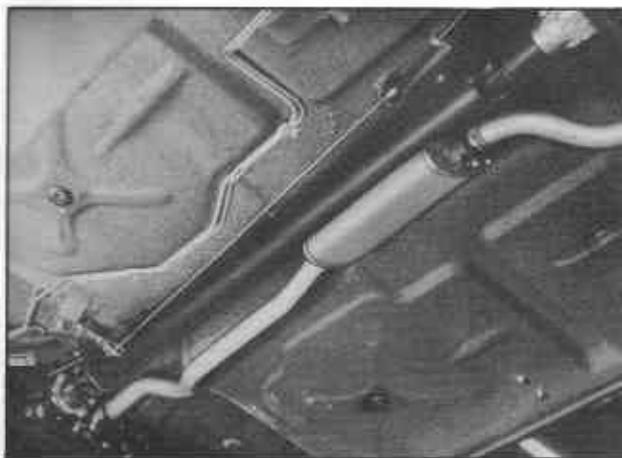

Fig. TM-6 Removing propeller shaft
3. Loosen the two exhaust center pipe clamps and turn the premuffler complete with center pipe to the left as shown in Figure TM-6. This will allow sufficient room for the propeller shaft to be removed.